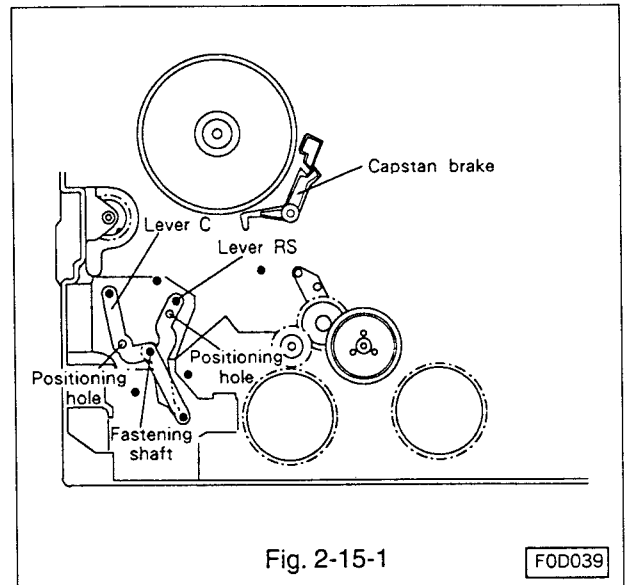

Fig. 2-15-1
2-15 Positioning and Installation Sequence of Parts Around Main Cam 1 (Bottom Side of Deck) (Refer to Fig. 2-15-1~2-15-6.)
- A. Line the positioning hole in the lever RS and that of the main plate, and assemble the lever RS to the shaft. (Refer to Fig. 2-15-1.)